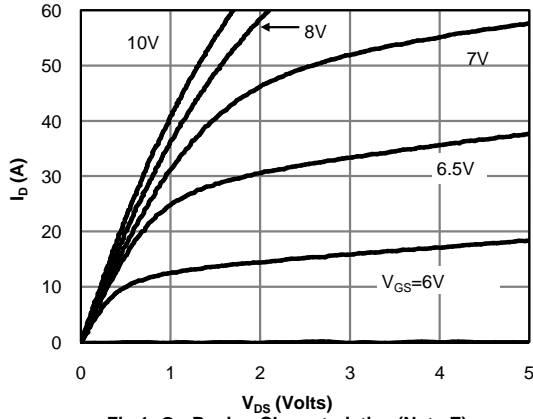

Figure 1: On-Region Characteristics (Note E)
E. The static characteristics in Figures 1 to 6 are obtained using <300ms pulses, duty cycle 0.5% max.